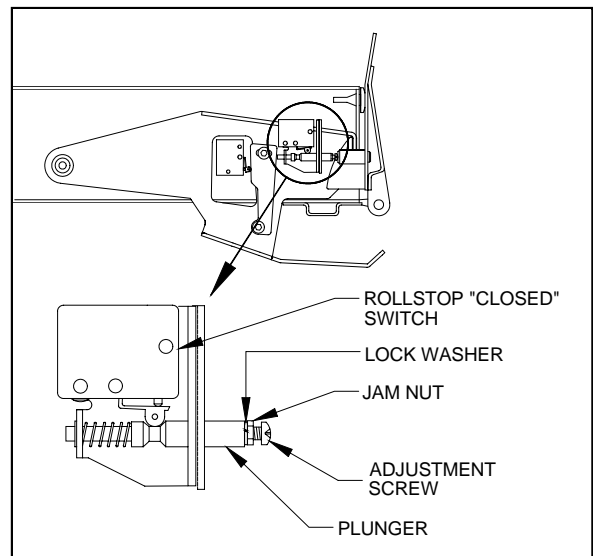

FIGURE 4-7: "CLOSED" SWITCH ADJUSTMENT
- 6) Refer to **Figure 4-7**. Adjust "Closed" switch by loosening jam-nut and turning adjustment screw that protrudes from end of plunger. The enlarged view shows plunger position when rollstop is open. The plunger should move to position shown in upper view when rollstop is closed. Adjust screw so that switch roller is on outside diameter of plunger when rollstop is closed. Retighten jam-nut.